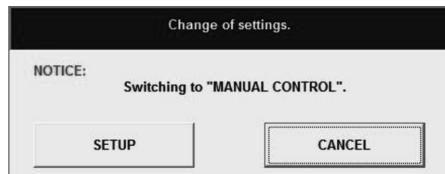

Fig.30
- ④ After filling in all the fields required at ③, click on "SETUP" button. A message box as shown in Fig. 30 then appears.